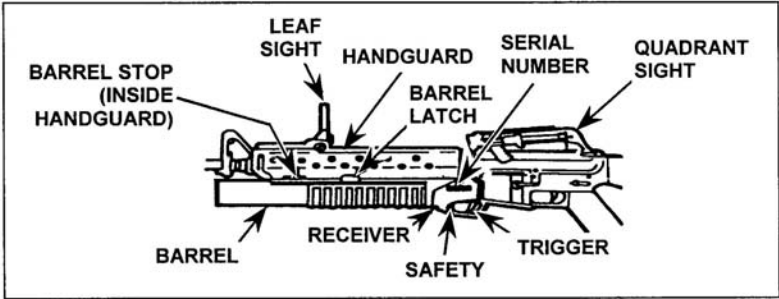

Figure 071-311-2125-1. Components of the M203 grenade launcher
- 2. Disassemble the M203 (figure 071-311-2125-1).